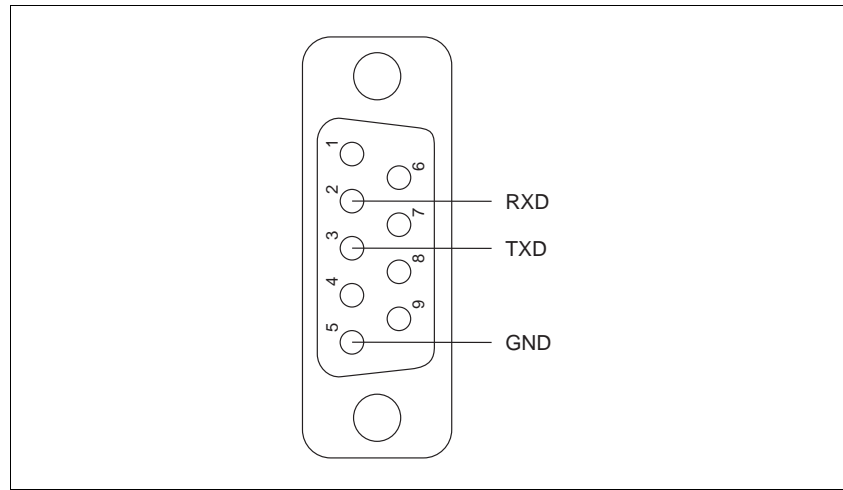
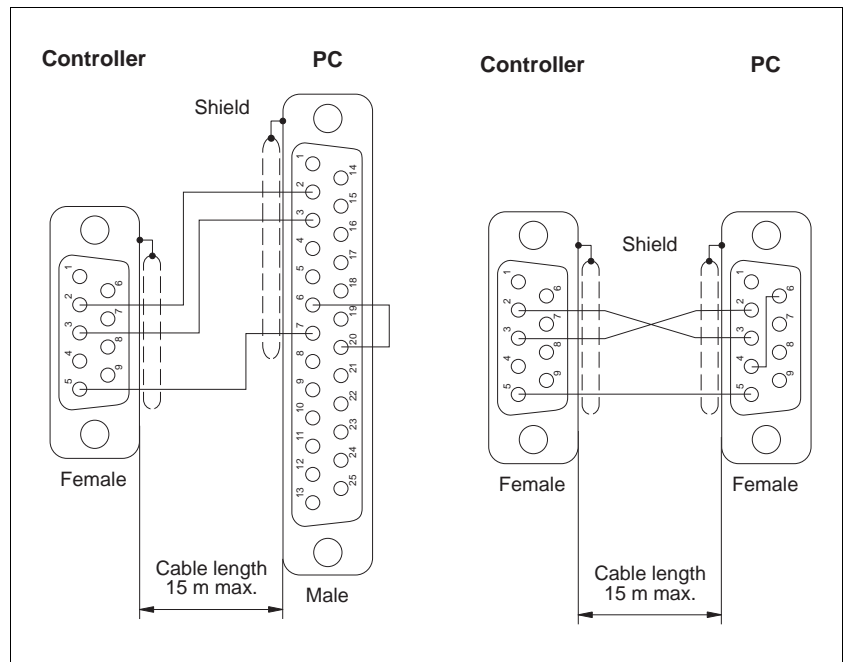

Fig. 2-15 Interface connector - device end
Fig. 2-16 Controller/PC wiring
1. Solder the litz wires to the connector as illustrated in fig. 2-15 and fig. 2-16.